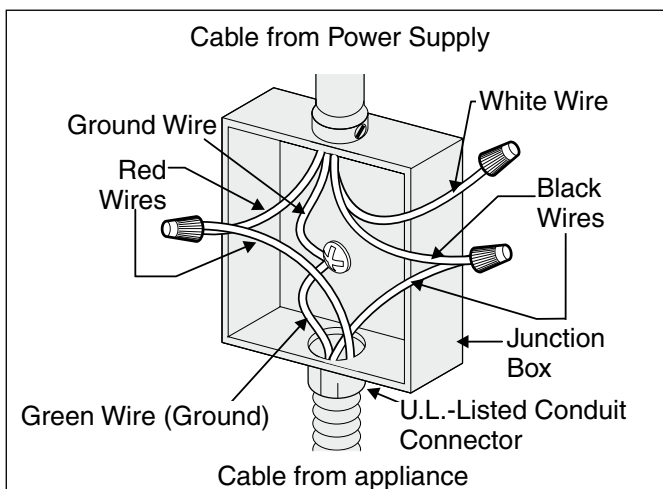

**Figure 3 - 3-WIRE GROUNDED JUNCTION BOX**
Where local codes permit connecting the appliance-grounding conductor to the neutral (white) wire (see figure 3):
2. In the circuit breaker, fuse box or junction box, connect appliance and power supply cable wires as shown in figure 3.